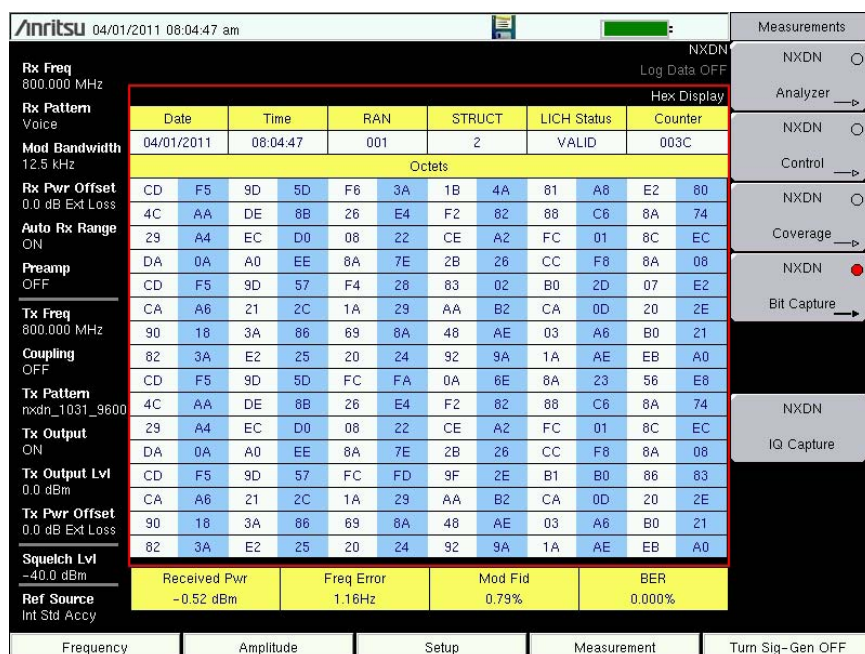

Figure 5-9. NXDN Bit Capture Display
4. To log data, insert a formatted USB flash drive in the LMR Master and set Log Data to On. The bit capture information will be written to a data stamped folder inside the /usr folder on the root level of the USB flash drive. The tab delimited text file contains the header and table information shown in Figure 5-9. The files are named: